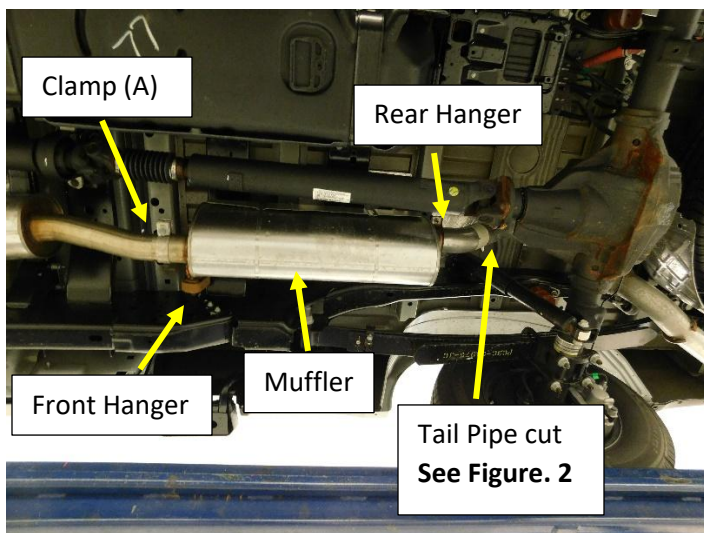
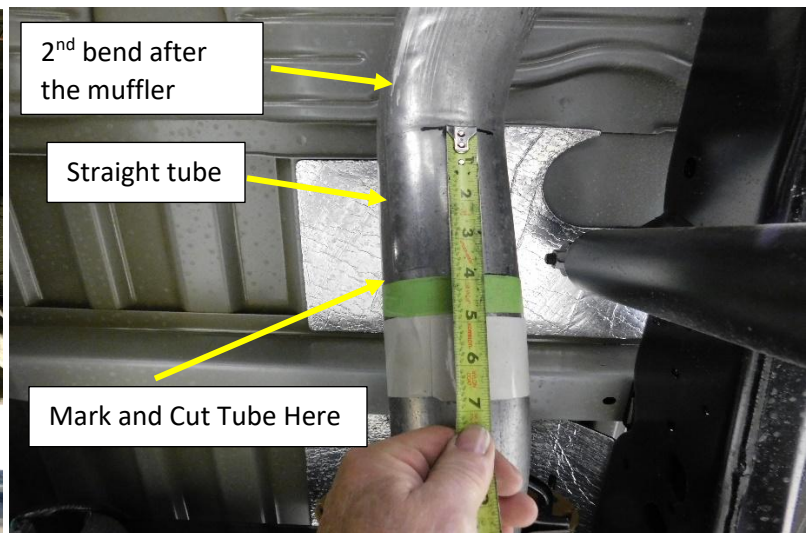

Figure.1
Figure. 2
Removing the OEM Muffler Assembly - Fig.1
1. Loosen the clamp at the muffler inlet (A). **Fig.1**
6. Mark the tail pipe at 4" down (towards the muffler) from the intersection of the second bend and the straight tube. **Fig. 1 / Fig.2**